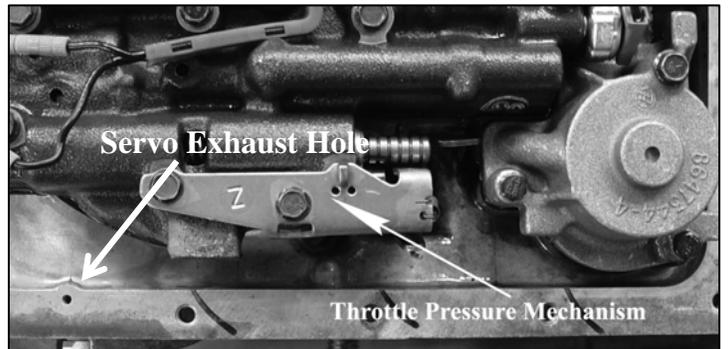

Figure 8
Step 16 Clean all old gasket material from the oil pan and the case. Wash pan in solvent and install with new pan gasket supplied. Do not use any gasket sealer. Make sure servo exhaust hole is not plugged or stopped up (See Figure 8). When cleaning gasket material, some could have accidentally gotten into this opening. Install pan bolts and tighten to 10 foot pounds. TCI® offers a deep aluminum pan (TCI® 378000) for this transmission.